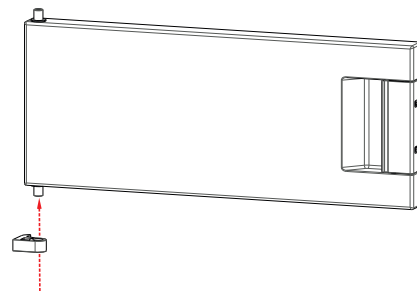

Fig. 7
- ▶ Now rotate the freezer compartment door by 180°. Place the freezer compartment hinge on the left-hand pins (Fig. 7).